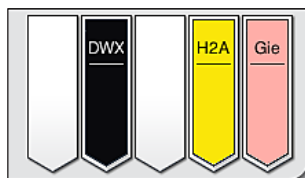

Fig. 87
- After a rack has run through the staining process, it is transported into the unload drawer (→ "Fig. 19-4") and placed in an available position (→ "Fig. 87"). The user is informed of this by an information message and a signal tone.